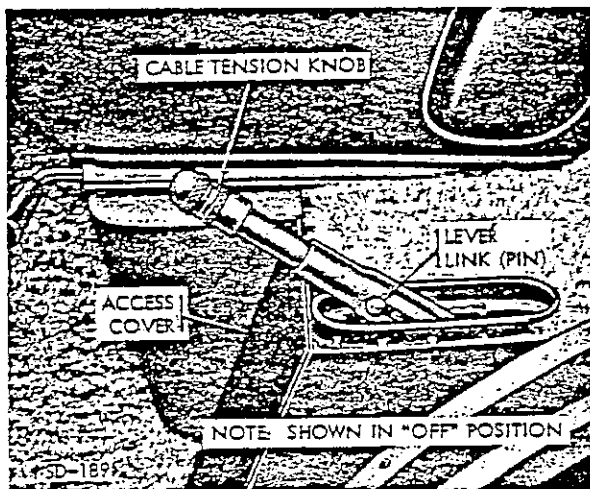

Figure 10-2. Parking Brake Hand-Operated Lever
b. Hand-Operated Lever Removal (fig. 10-2).
1. Aft Cable Installation (fig. 10-2).